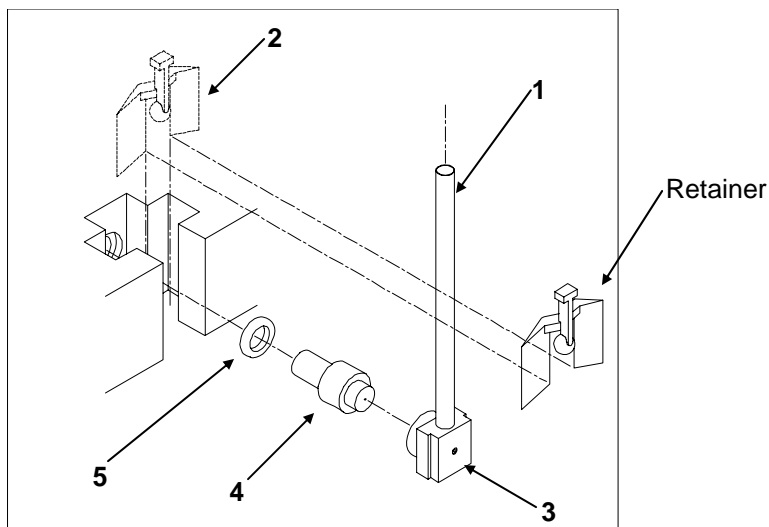

Figure 3-1
2. Disassemble the atomizer jet assembly following the order indicated in Figure 3-1. The retainer that holds the parts of the jet together can be difficult to remove. If necessary, use a pliers to pull down on the tab with a *gentle* rocking motion. The jet assembly incorporates a small O-ring. Set it in a safe place.